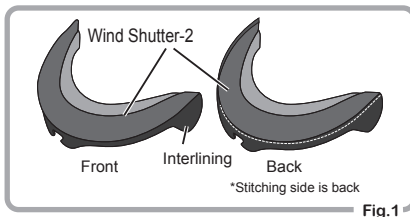

Fig.1
- ① Refer to Fig.1 and check the front side and back side of the Wind Shutter-2.